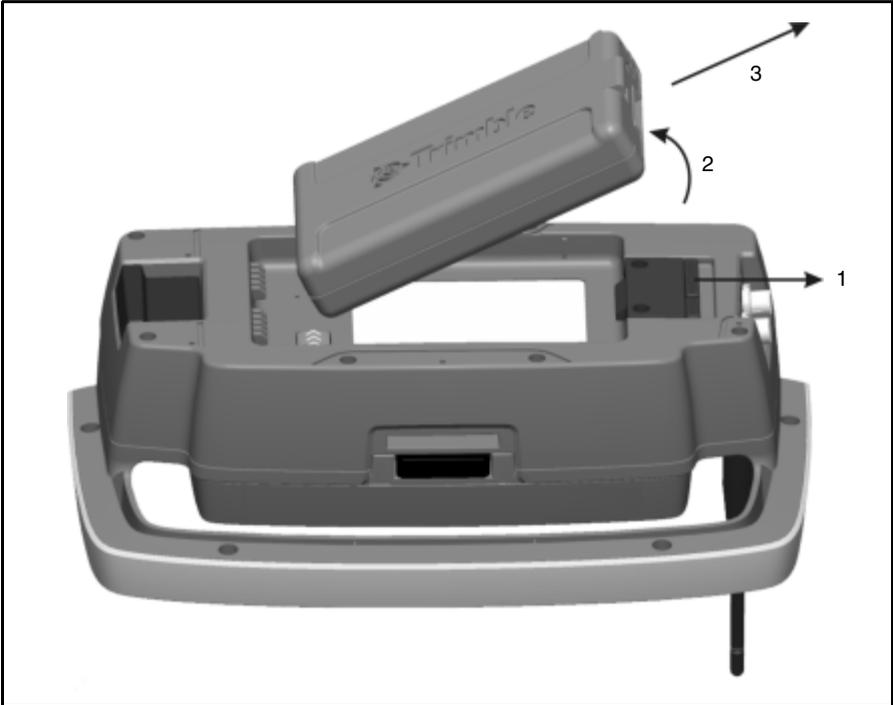

Figure 7.58 Detaching a battery from the Trimble Robotic Holder
1. Pull the battery lock mechanism away from the battery (1).
2. Lift up this side of the battery (2).
3. Remove the battery from the holder (3). See figure 7.58.